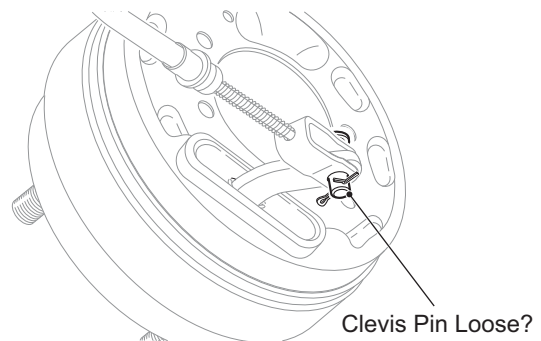

Figure 12 Check Clevis Pins
10. Check to see that the clevis pins attaching the brake cables to the brake levers are loose. If they are not loose, inspect the system again and correct as required (Ref. Figure 12).